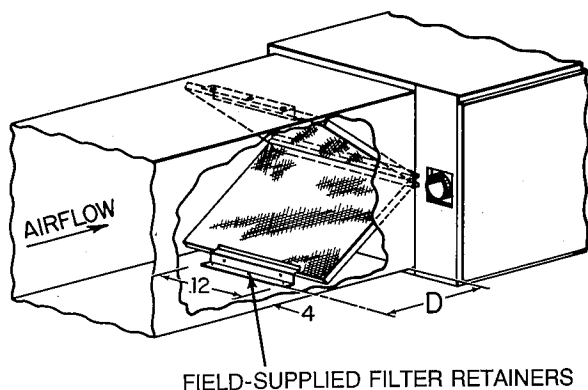
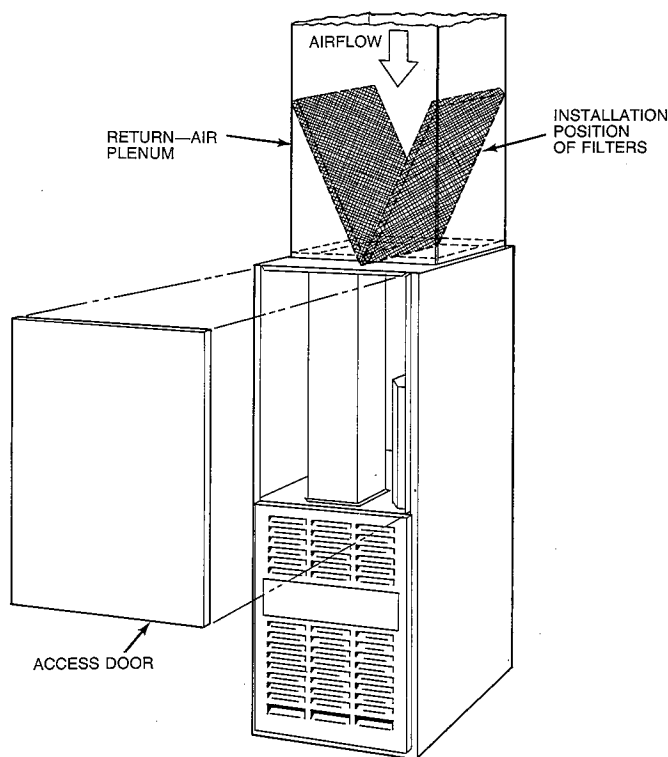

Figure 8—Horizontal Filter Arrangement
Figure 9—Downflow Filter Arrangement
- a. Install field-supplied filter retainers as indicated in Figure 8 and Table IV before connecting return-air duct to furnace.
The two factory-supplied filters are shipped in the blower compartment. After the return-air duct has been connected to the furnace, install the filters in a V-formation inside the return-air plenum. See Figure 8 and Table IV for horizontal applications. Horizontal filter retainers must be field-supplied. See Figure 9 for downflow applications.